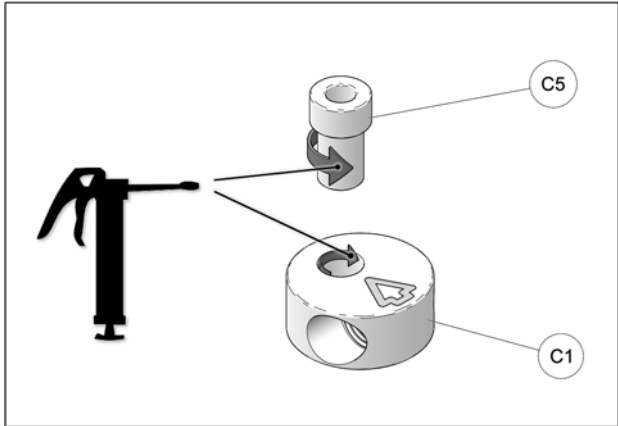

Fig. 26
17. Apply grease evenly all around step spacer bushing (C5) and in hole of aluminum disk (C1) when assembling these parts together. See Fig. 26